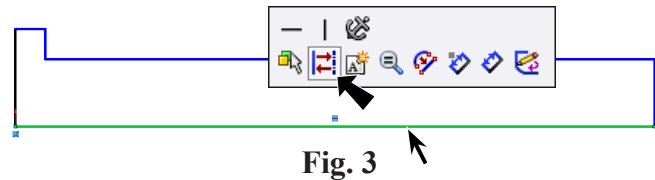

Fig. 3
Step 6. Click **bottom horizontal line** and click **Construction Geometry**  on the Context toolbar, **Fig. 3**.